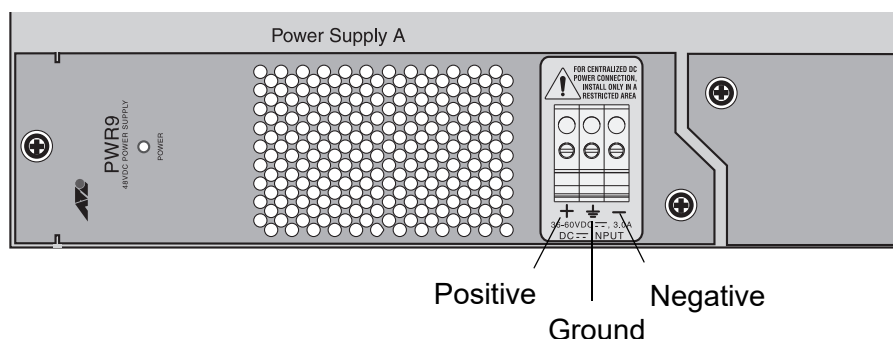

Figure 16. Locating the Terminals on the DC Terminal Block
1. Identify the **negative**, **frame ground**, and **positive** terminals on the terminal block, as shown in Figure 16.